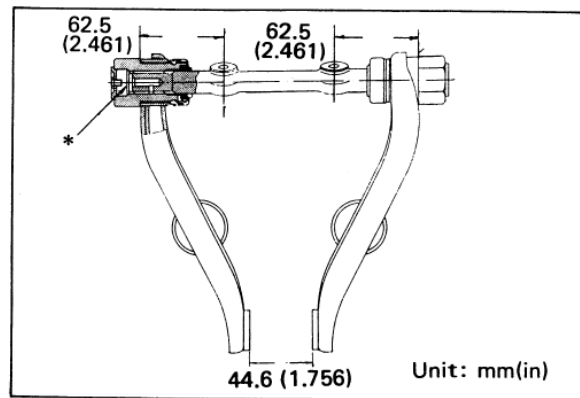

Fig. FA-27 Upper link and upper link spindle
(2) Fill screw bushing (indicated by asterisk (*) in Fig. FA-27) fitted to upper link with multi-purpose grease (MIL G2108 or 10924). Apply grease to thread on bushing interior and thread on upper link spindle sufficiently.